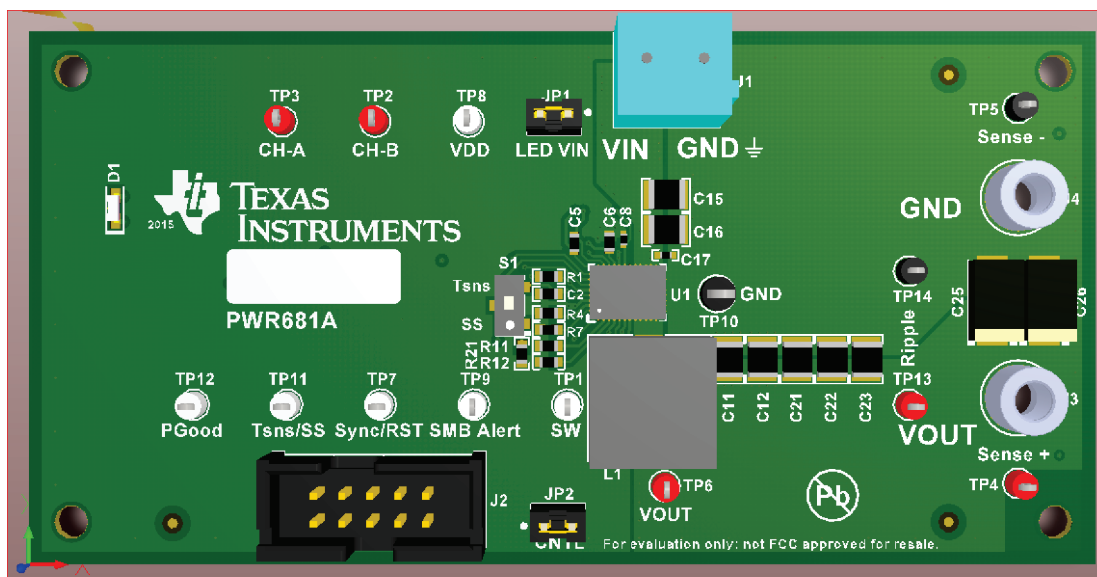

Figure 2. PWR-681EVM Overview
Voltage Source: The input voltage source VIN must be a 0-V to 18-V variable dc source capable of supplying at least 8 A_{DC}. Connect VIN to J1 Figure 2.
Multimeters: It is recommended to use two separate multimeters Figure 2. One meter is used to measure V_{IN} and one to measure V_{OUT}.
Output Load: A variable electronic load is recommended for testing Figure 2. It must be capable of 30 A at voltages as low as 0.9 V.
2. Apply the input voltage to the EVM. See Figure 2 for overview of the EVM and its connections.